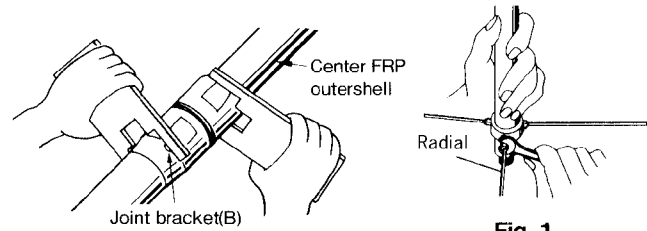

Fig. 1
6. Attach three radial elements as shown in Fig.1.